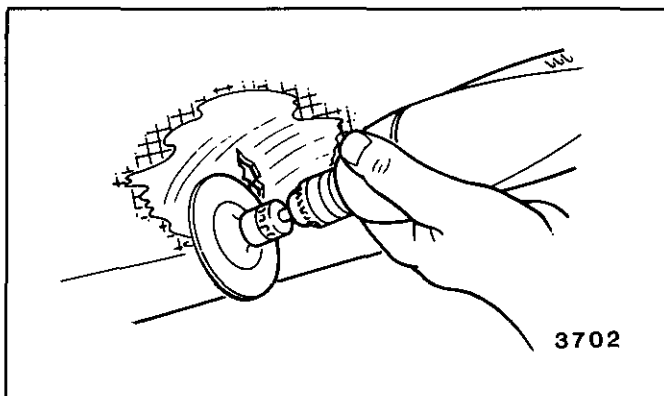

Fig. 1-12-Tapering Substrate Surrounding Damage
- b. Use a **clean** 50 or 75 mm (2" or 3") #50 grit disc to enlarge the gouge or puncture in order to ensure removal of grease, oil or dirt from the area to be contacted by the repair material. This action should also create at least a 25 mm (1") taper around the damage for extended contact between the repair material and substrate. Remove all dust and loose particles from the repair area (Fig. 1-12).